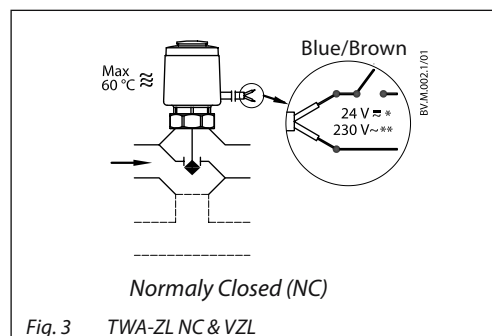

Fig. 3 TWA-ZL NC & VZL
- in the non-energized state valve path A-AB is closed (fig.3)